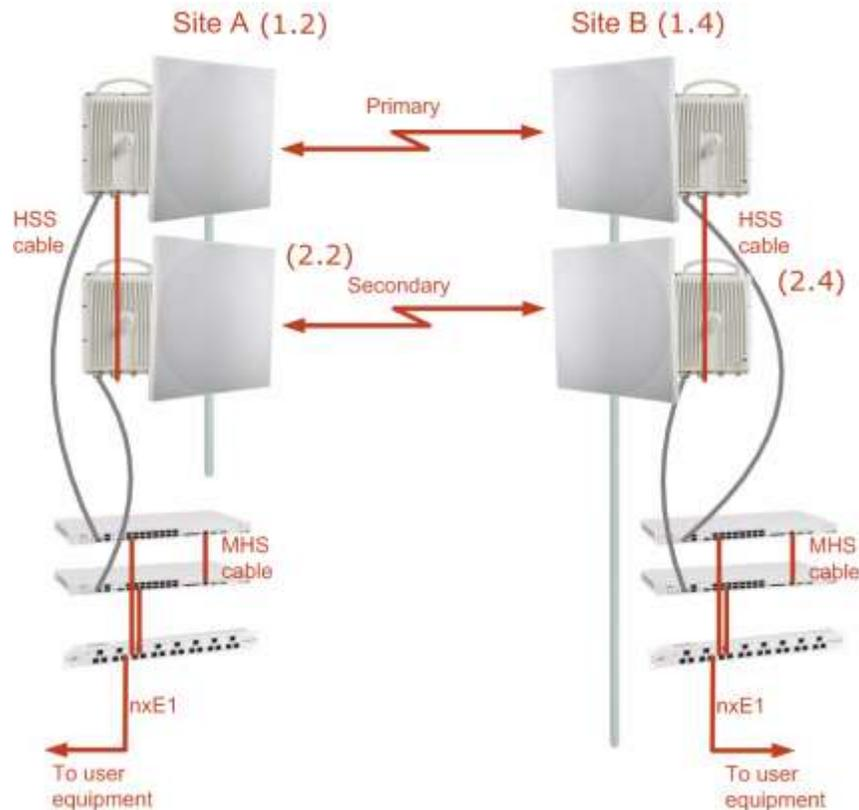
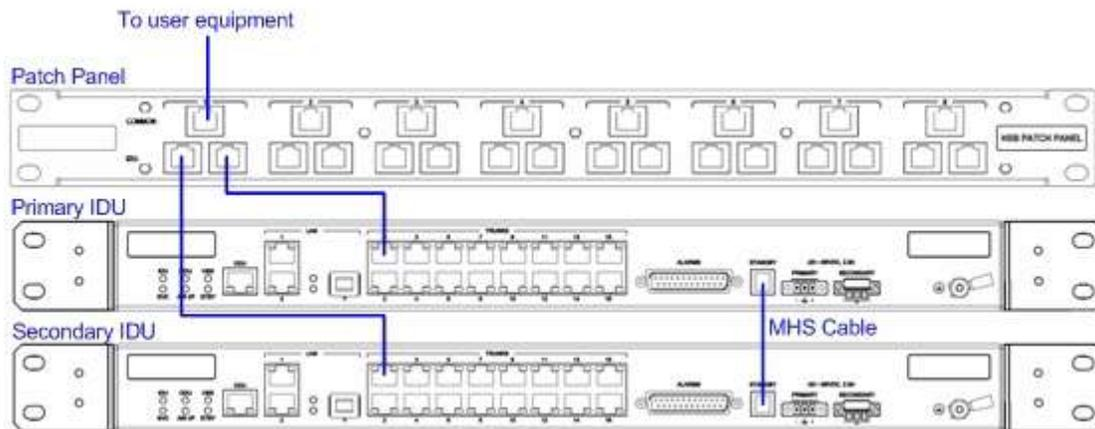

Figure H-1. Hot Standby Link
Figure H-3. Connecting IDUs to Patch Panels
*Figure H-1* illustrate an MHS setup. *Figure H-3* shows how to connect the IDUs to the patch panel.
- The links intended as the primary and secondary are referred to their respective names, Primary Link and Secondary Link as shown in *Figure H-1* above, despite their having yet to be installed.
6. Connect the MHS cables at Sites A and B as shown in *Figure H-1* and *Figure H-3* above.